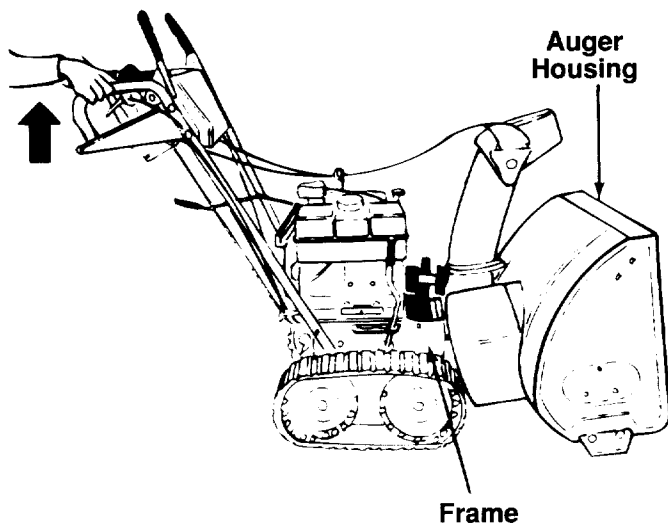

FIGURE 15.
5. Separate the housing from the frame assembly by standing in the operating position and lifting up on the handles. The frame and housing will separate, and the rear auger drive belt will come off the pulleys. See figure 15.